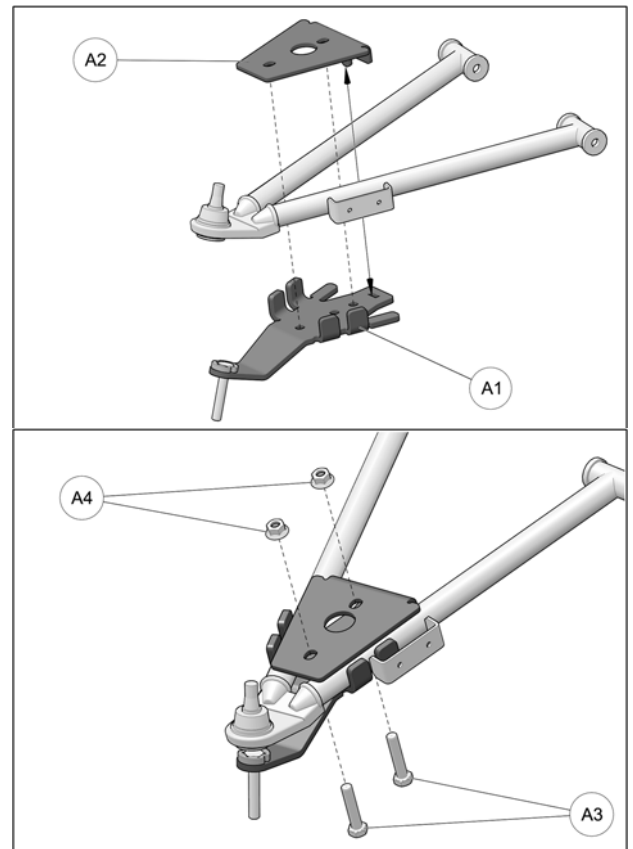

Fig. 17
5. Position bottom part of anchor bracket (A1) assembly under front lower suspension arm, as shown in the figure below. Position bracket cover (A2) over suspension arm and align holes in cover and bottom part. Insert M10x50mm bolts (A3) through top and secure the two parts together with nuts (A4) provided. Tighten assembly to 50 N•m [37 lb•ft] of torque. Refer to Fig. 17